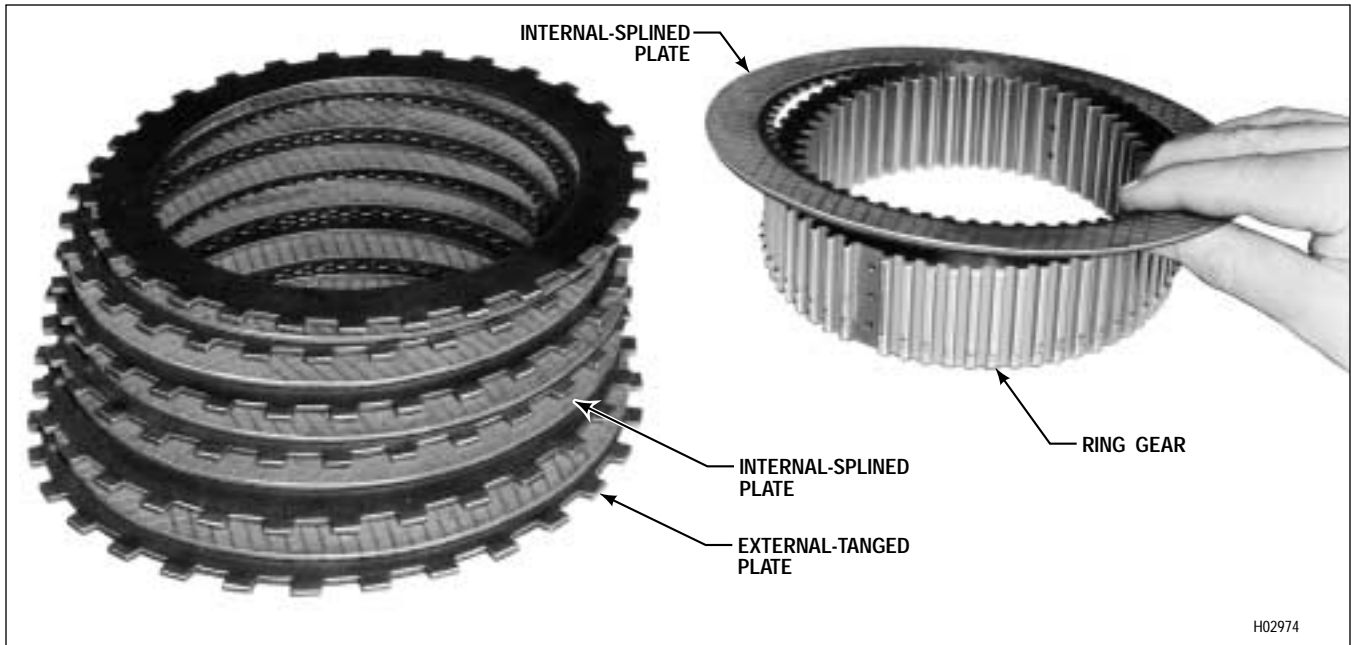

Figure 7-3. Installing First Clutch Plates Onto Rear Planetary Ring Gear
(9) For models before S/N 5071, install all fourteen first clutch plates into the transmission as follows. Beginning with an external-tanged plate, alternately install seven external-tanged plates 4 (Foldout 10,B) and seven internal-splined clutch plates 3.
(10) Install the clutch backplate (wide surface down) and secure it with a snapping. The first clutch snapping must be installed with the snapping gap at the 12 o'clock position (at the top of the transmission housing) and must be fully seated in its groove. Proceed to Paragraph 7-4b and continue rebuild.
(11) After S/N 5070, place ring gear 5 (Foldout 10,B) on a work table, extended teeth downward. Beginning with an internal-splined plate, alternately install six internal-splined and six external-tanged clutch plates onto the rear ring gear (Figure 7-3).